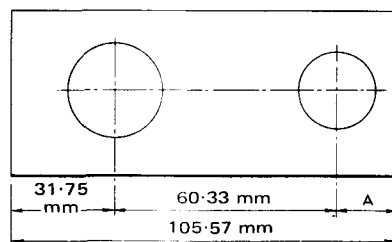

Fig. 1.3
- Find the dimension A shown in Fig. 1.3.